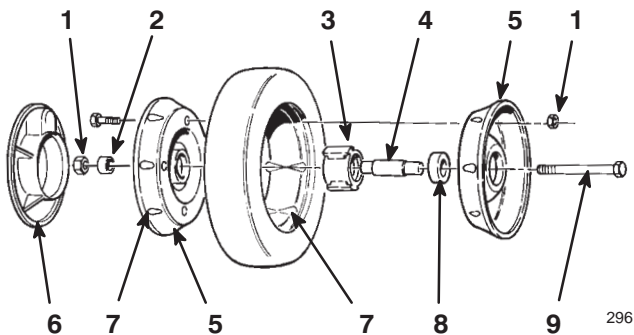

Figure 40
3. Remove the cap screw, the wheel spacer, and the locknut mounting the wheel to the pivot arm (Fig. 40).
4. Separate the wheel halves from the tire by removing 4 cap screws and 4 locknuts (Fig. 40).
Note: If you remove the bearings from the bearing/hub assembly, remove them by pressing on the bearing spacer (Fig. 40).
1. Position the tire onto one wheel half, aligning the lugs on each (Fig. 40).
2. Place the bearing/hub assembly into the center hole of the wheel half. Ensure that the legs of the hub are positioned over the flange of the hole (Fig. 40).
3. Place the other wheel half onto the bearing/hub assembly, aligning the wheel and the tire lugs and the mounting holes (Fig. 40).
4. Using 2 fully threaded screws or bolts (1/4–20 x 1.50 in.) and non-locking nuts, loosely secure the wheel halves together. Mount the screws or bolts in the opposing holes (Fig. 40).
5. Check the alignment of all parts and tighten the screws, alternating from side to side for a uniform fit, until the wheel halves are drawn together (Fig. 40).
6. Install the 2 cap screws and 2 locknuts previously removed in the remaining holes in the wheel halves and tighten. Remove the 2 long screws or bolts and replace them with 2 cap screws and 2 locknuts (Fig. 40).
7. Install the wheel to the pivot arm with the cap screws, a spacer, and a locknut. Ensure that the spacer is positioned between the wheel hub and the pivot arm (Fig. 40).